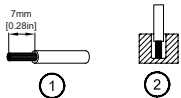

Figure 5
You can use flexible (stranded wire) or solid wire with cross section 0.32-3.3 mm² (AWG 22-12) and torque of 0.46Nm (4.05lb in). To secure reliable and shock proof connections, the stripping length should be 7 mm [0.28 in] (see Fig. 5 (1)). Please ensure that wires are fully inserted into the connecting terminals as shown in Fig. 5 (2).